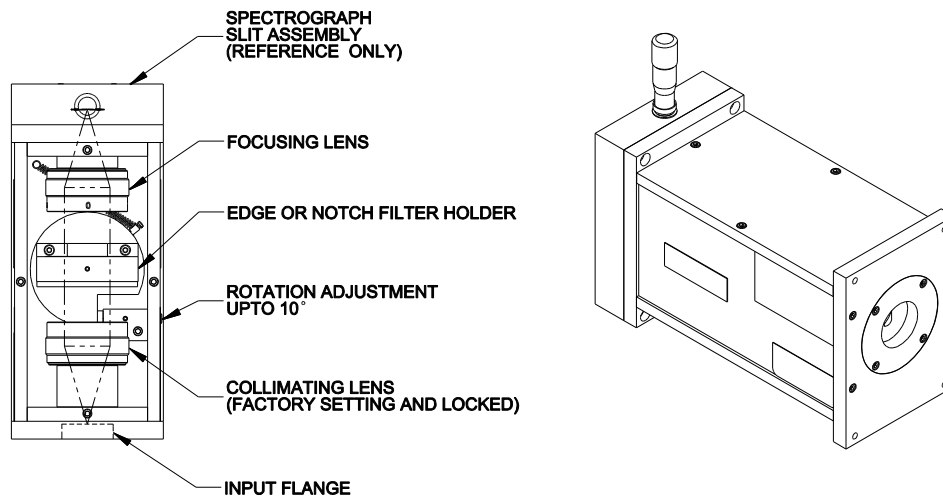

Figure 3. IARC-446-070 Layout (Top View)
Refer to Figure 3 when mounting the IARC-446-070 to Acton series monochromators or spectrographs.
3. Position the IARC-446-070 against the ENTRANCE SLIT of the Acton Series monochromator or spectrograph as shown Figure 3. Align the mounting holes of the IARC-446-070 with the tapped holes in the slit assembly.
4. Insert the four (4) 8-32 screws provided through the mounting holes and into the tapped holes of the slit assembly. Tighten to secure the IARC-446-070 to the entrance slit.